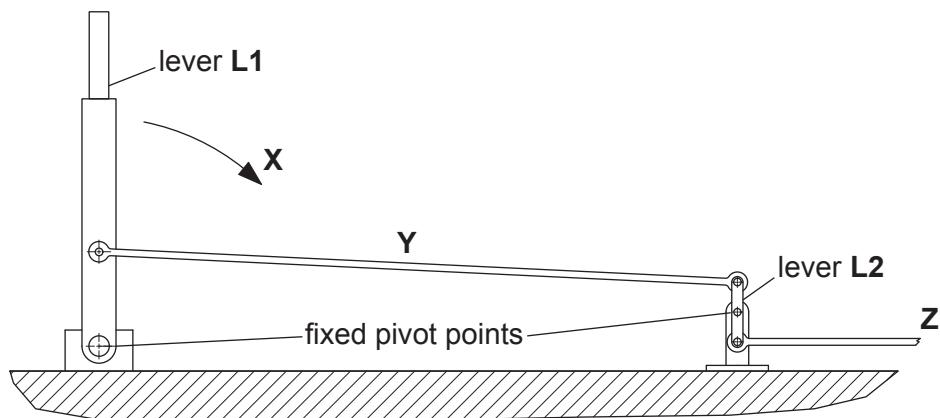

Fig. 3.1
- 3 Fig. 3.1 shows a lever being used to move a link rod that is attached to a second lever.
- (b) Add arrows to Fig. 3.1 to show how link rods Y and Z will move when lever L1 rotates in direction X.